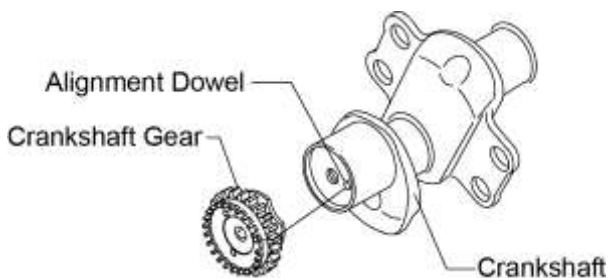

Figure 50
- (1) Start with a clean crankshaft that passed the “Crankshaft Inspection” in this chapter.
- (2) Make sure the mating surfaces of the crankshaft trigger gear assembly and crankshaft counter-bored end are clean and dry and that there is no debris. Refer to the procedures “Crankshaft Cleaning,” “Crankshaft Counterbore Cleaning,” and “Crankshaft Trigger Gear Assembly Cleaning” in Chapter 05-30 in this manual.
- (3) Install the crankshaft trigger gear assembly on the alignment dowel of the crankshaft counter-bored end as shown in Figure 50. Use a soft mallet as needed to seat the gear in place.